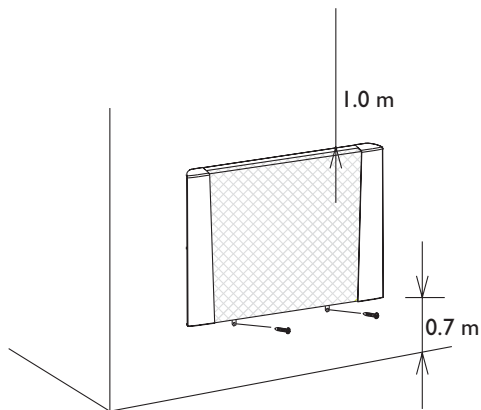

fig.1
Drill holes in the wall, as shown in Fig.1, paying particular attention to the minimum distances indicated.
6. Mark out the 2 lower fixing points (see fig.1). Remove the appliance, drill the lower holes and insert the wall plugs. Now, you can hang the heater to the support and fix the lower part of the appliance with the 2 remaining screws.